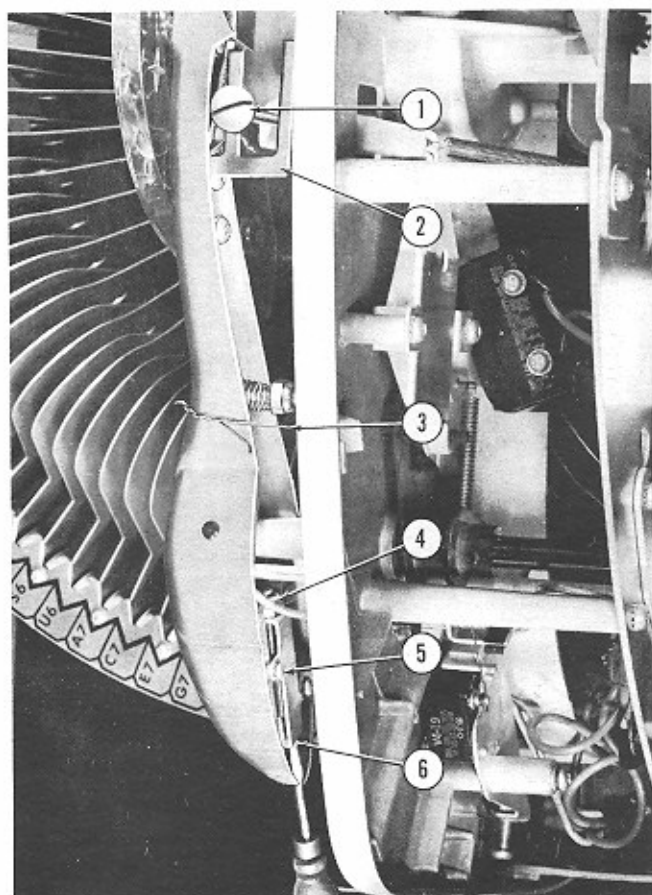
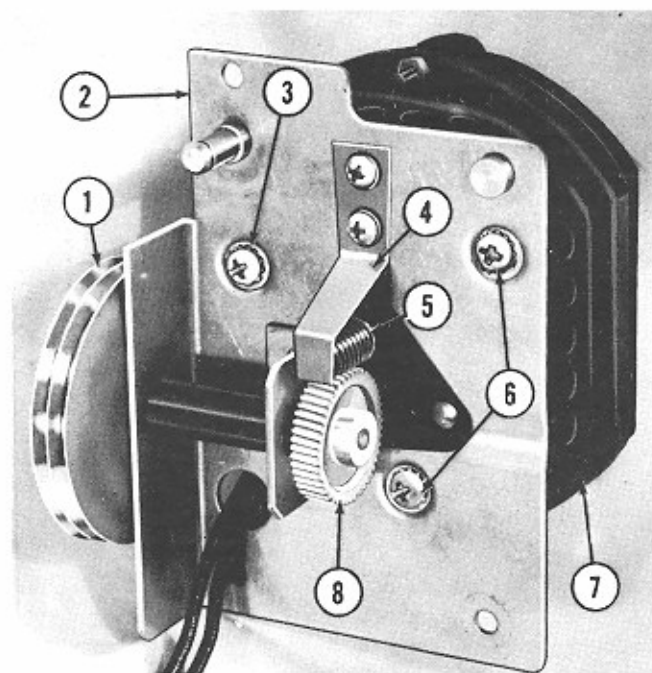

Fig. 83. TONE ARM BALANCING
Fig. 84. TURNTABLE DRIVE GEAR ADJUSTMENT
y. Tone Arm Balancing. (Fig. 83)
The tone arm should be very carefully balanced on its gimbal by means of the balancing weight and bracket assembly shown in Item 5, Figure 83. When in good balance and otherwise in good adjustment, the tone arm should have no greater than 1 gram tendency to move in either direction from any point in its normal travel. Also, its tendency to remain in one place should be no greater than 1 gram. To properly balance the tone arm proceed as follows:
(2) Tie a short piece of fine thread around the tone arm and gimbal bracket as shown in Item 3, Figure 83. This tie should be drawn just tight enough to free the tone arm latch equally from either side of the feed-in screw (Item 1).
(3) Using a sensitive gram scale (0 - 10 grams) at the pick-up end of the tone arm, measure the swinging tendencies of the tone arm and adjust the balancing weight (Item 5) to bring the balance within the requirements as described above. The adjusting screw (Item 6) serves to move the balancing weight and bracket assembly in either direction as required.
z. Turntable Drive Gear Adjustments. (Fig. 84)
The turntable drive gears must operate freely at all times. The tension of the thrust spring (Item 4, Fig. 84) against the ball bearing in the end of the rotor shaft should be $2-1/2$ to $3-1/2$ ounces. Adjust the mesh of the gear and worm to obtain minimum back lash without drag, as follows: